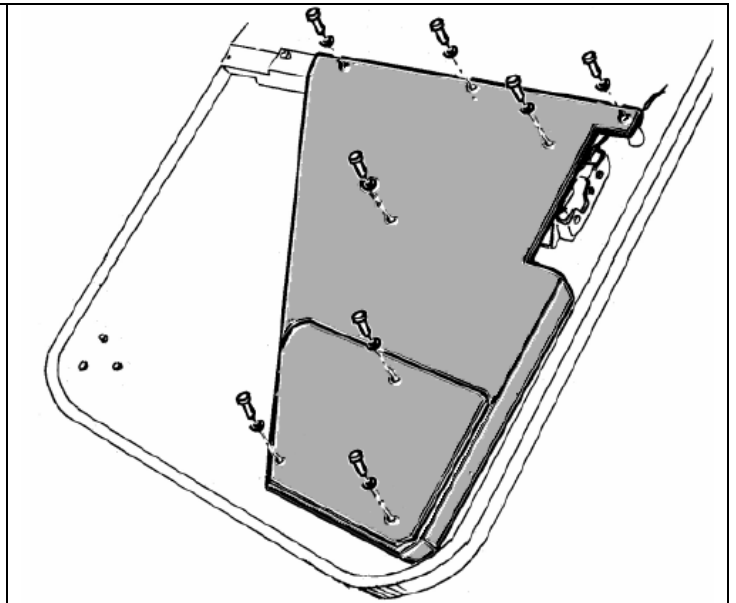

Figure 5-102. RH Door Accessories Assembly (6 of 6).
4. Route the mirror wire under the internal door cover plate as shown in Figure 5-102. Secure to the door with plastic clips (P/N 534000028-00) near the forward edge.